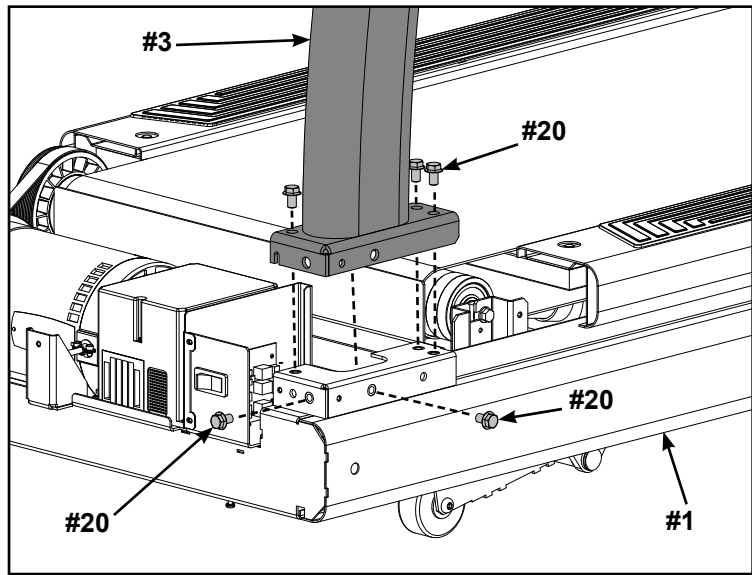

Figure 3
- B. Carefully place the left upright (#3) on the base assembly (#1) as shown. See Figure 3.
- C. Using a 9/16" Socket wrench, partially tighten each of the five bolts, 3/8-16 x .625" (#20). See Figure 3.
- F. Using a 9/16" Socket wrench, fully tighten the ten bolts, 3/8-16 x .625" (#20) securing the uprights to the base assembly (#1). See Figure 3.